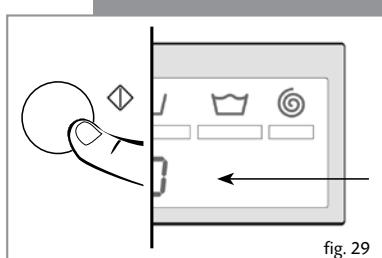

fig. 29
- The lock function is cancelled when the wash programme comes to an end (Figure 29).